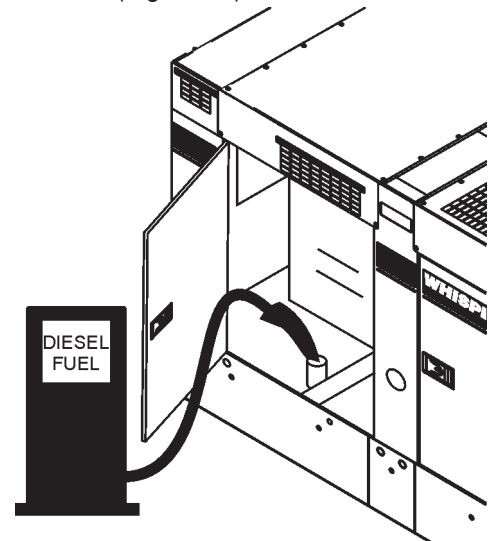

Figure 34. Fueling the Generator
3. Open cabinet doors on the “right side” of the generator (from generator control panel position). Remove fuel cap and fill tank (Figure 34).